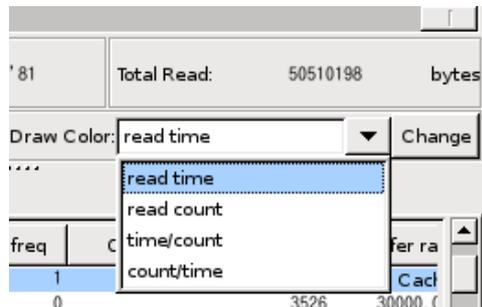

Figure 15: [[Draw Color]] Pull-down list
- [[Draw Color]] Pull-down list (Figure 15)